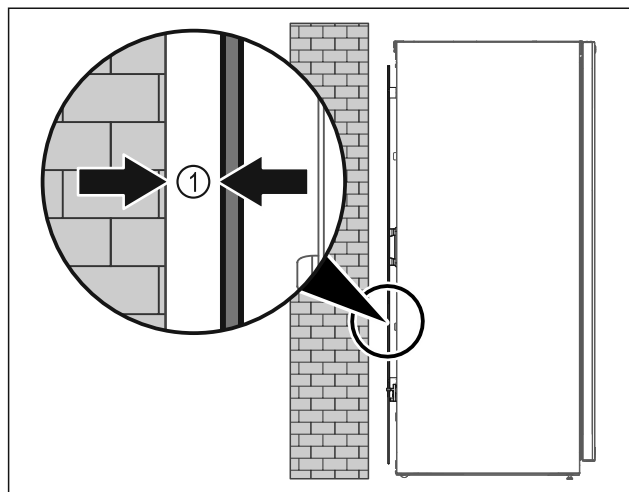

Fig. 9
- Set up the appliance either free-standing or directly against a wall at a minimum distance of 5 mm Fig. 9 (1).